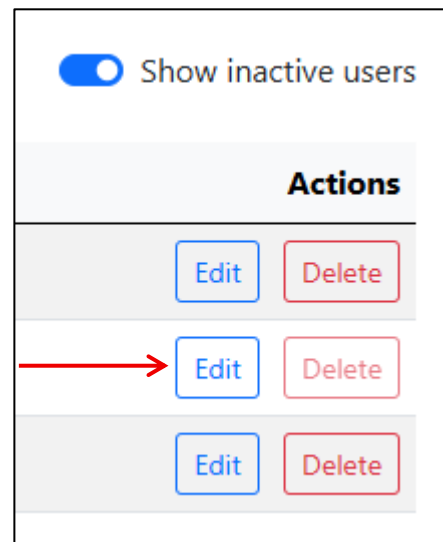

Figure 8: The User Admin Action buttons
2. Locate the desired user and click the **Edit** button (fig. 8) in the corresponding user row. Note: The list of users is defaulted to show active users only. If an existing user cannot be found, try setting the “Show inactive users” toggle on.